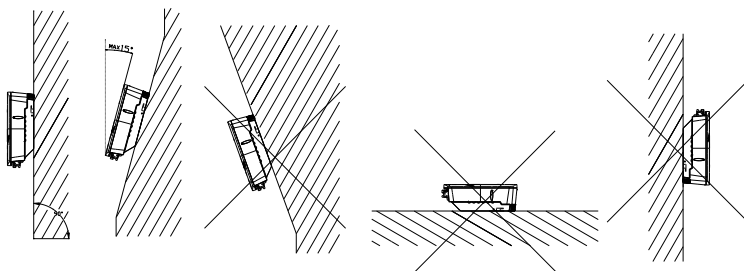

Figure 4.1 Mounting method
- ① The equipment employs natural convection cooling method, and it can be installed indoor or outdoor.
- ② Please install the equipment under the guidance of Figure 4.1. Vertical installation on floor level is recommended. Mount vertically or tilted backwards by max. 15°. Never install the inverter tilted forwards, sideways, horizontally or upside down.
- ③ Considering convenience for maintenance, please install the equipment at a position in parallel with line of sight.
- ④ When mounting the inverter, please consider the solidity of wall for inverter, including accessories. Please ensure the Rear Panel tightly.